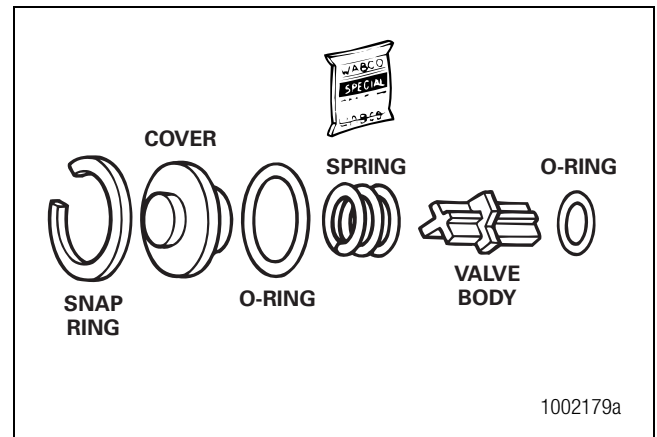

Figure 2.19
1. Review Figure 2.19 to ensure you have all of the parts required to replace the bypass valve.